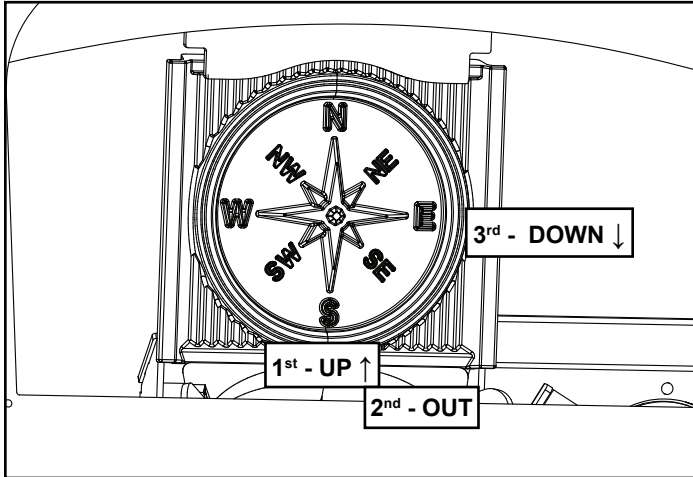

Figure 5.3
3. Remove the (2) internal pieces of cast iron Figure 5.2. See Figure 5.3 for Center Medallion removal instructions.
3. Pull downward on the corners of the medallion until the top is released from the retainer that keeps the top aligned when in place. Figure 5.3.